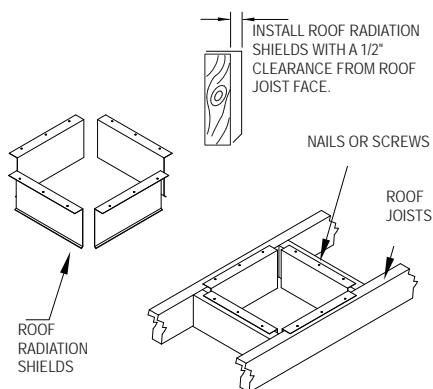

Figure 8
**Note:** Combustible materials will still need to be a minimum of 2" away from the chimney. Roof Radiation Shields must be installed with their face 1/2" off of the roof framing joists (**Fig 8**). Depending upon the pitch of your roof, trim the Roof Radiation Shields with tin snips so they provide complete coverage of the roof framing exposed to the chimney. Secure the Roof Radiation Shields to the top of the framing members using at least (3) nails or screws for each shield (**Fig 8**).